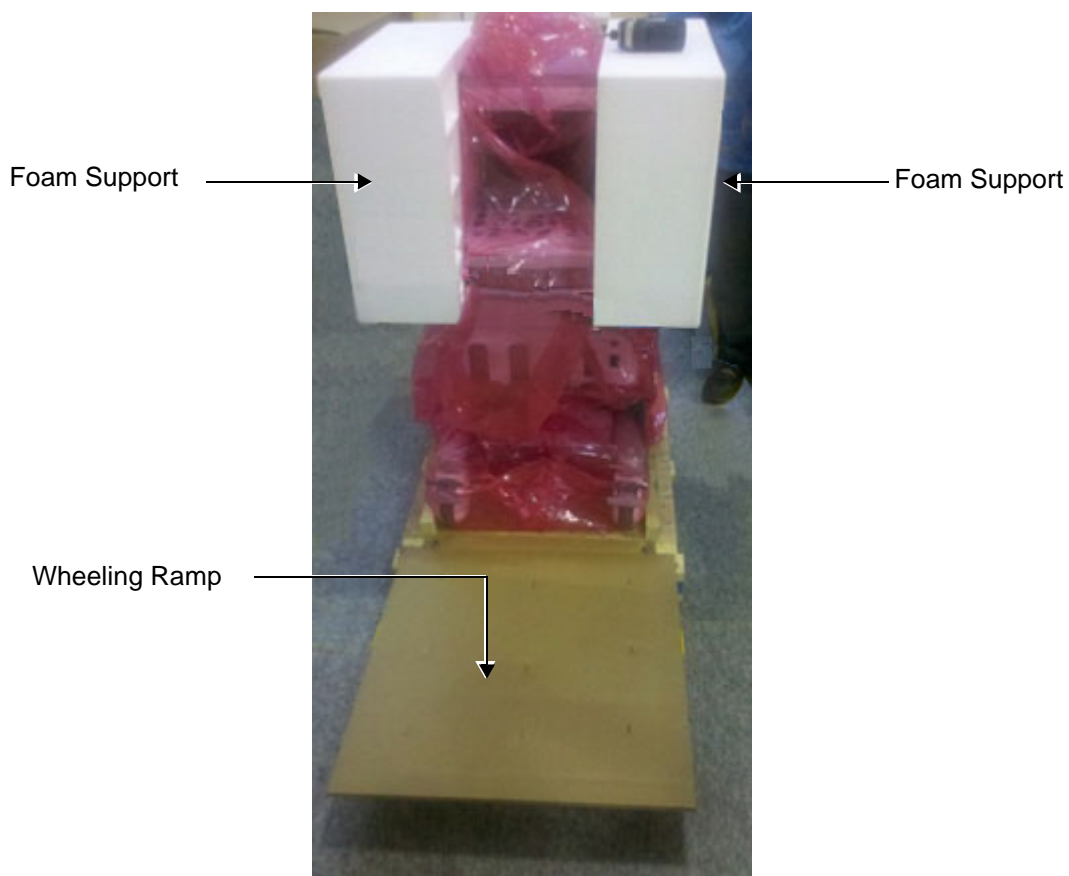

Figure 3-7 Wheeling Ramp in Unloading Position for Scanner Removal
6.) Lower the wheeling ramp into the unloading position, as shown in Figure 3-7 on page 3-12.
- 8.) Remove the two screws that secure the console holder, then remove the holder (Figure 3-7).